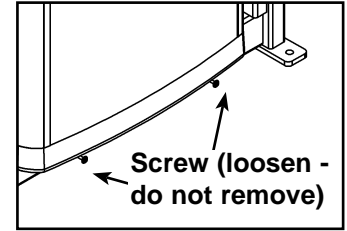
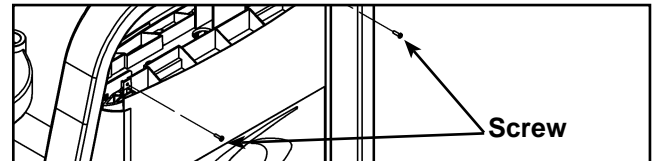

Figure 6
Figure 7
- F. Loosen bottom two screws shown in Figure 6. **NOTE:** Do not remove the bottom two screws. Remove the top two screws securing the back shroud. See Figure 7.